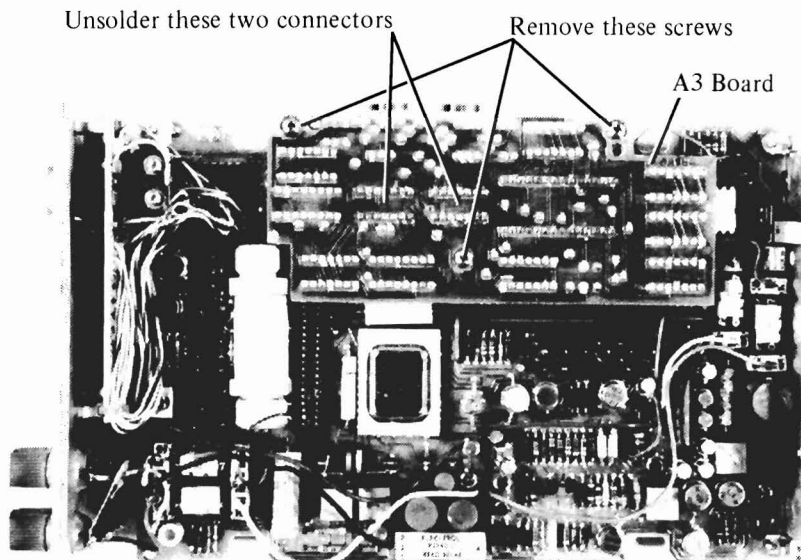

Figure 1. Removal of A3 Board.
3. Remove the three screws that secure the A3 board to the mother board. Unsolder the two connectors attached to the flat cables which go to the mother board (see Figure 1).